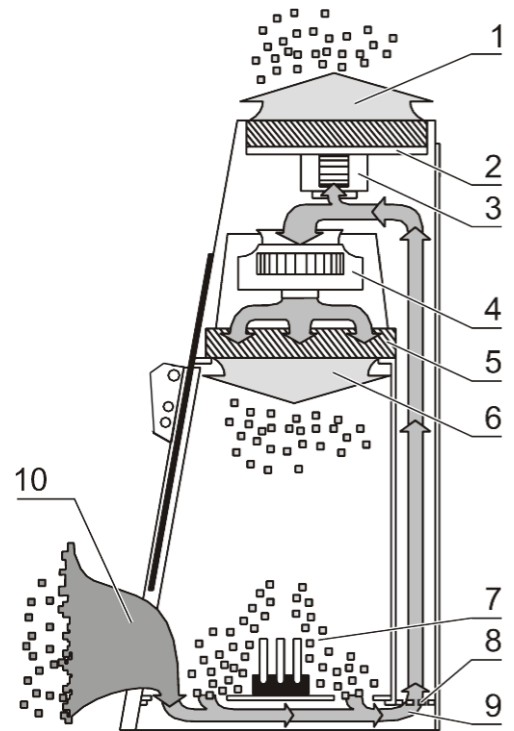

Fig. 4a
**Fig. 4a:** The filter system consists of two HEPA filters [2] and [5] for the circulating air and for the exhaust air and of a coarse filter for the aspirated air.